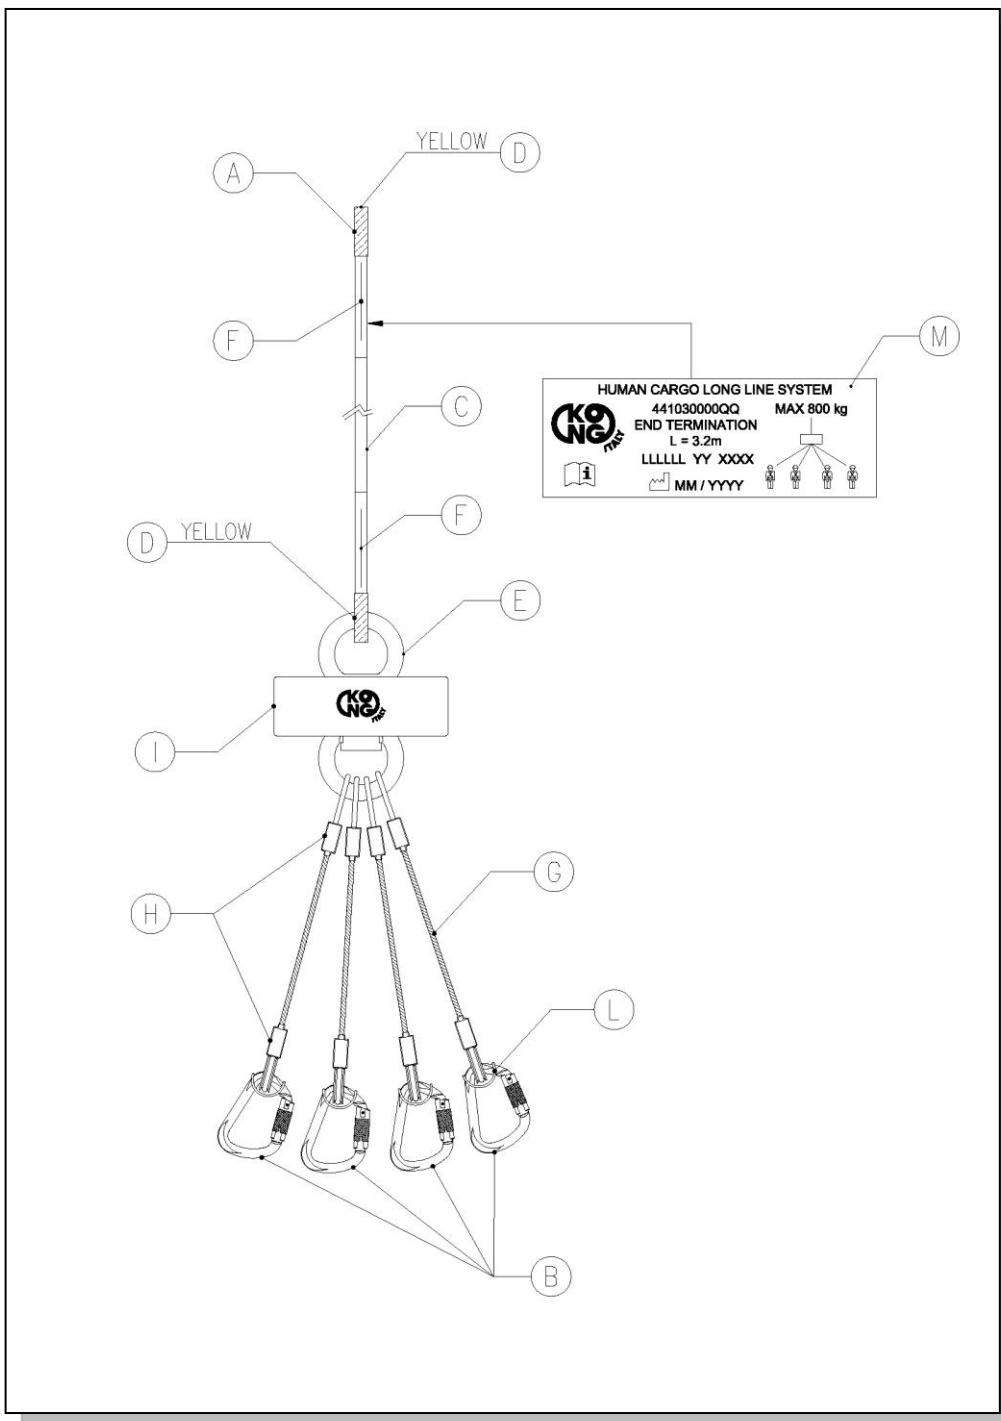

Fig.4 – End Termination
The End Termination (Fig. 4) consists of a rope (C) with the loop terminals, to connect respectively:
- and from a Swivel (E) composed of:
- a central part covered with impact protection (I),
- a eyebolt connected to the loop rope terminal (C),
- a eyebolt to which 4 wire steel arms (G) are connected with the respective connectors (B) and fast (L).
Terminology of parts: (Fig. 4): (A) End Termination junction stitched loop, (B) X-Large Steel connectors with automatic sleeve, (C) Stitched Rope, (D) Protection Rope (yellow color), (E) Swivel, (F) Stitching, (G) Wire steel arms, (H) Cable sleeves, (I) Shock protection, (L) Fast, (M) "End Termination" label.